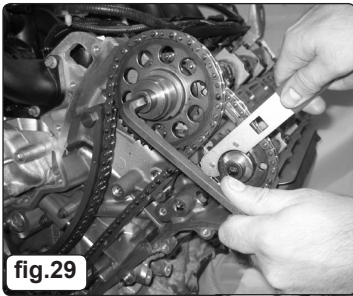
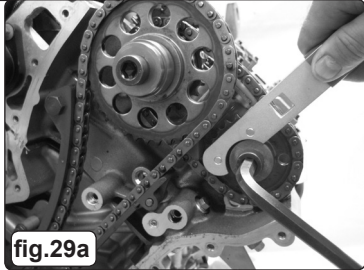

fig.29
fig.29a
- 4.7.5 Fit VS4984 Holding Tool to the **EXHAUST** camshaft gear and use to counter-hold whilst slackening the **INLET** camshaft gear bolt (fig.29). Continue to counter-hold and slacken the **EXHAUST** camshaft gear bolt (fig.29a).